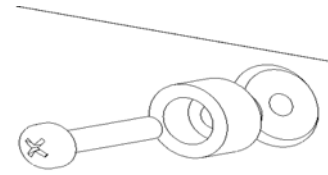

Figure 6. Remove Sony Mounting Buttons
1. Using a Phillips screwdriver, remove the four mounting buttons attached to the back of your Large Flat Panel display (see Figure 6).